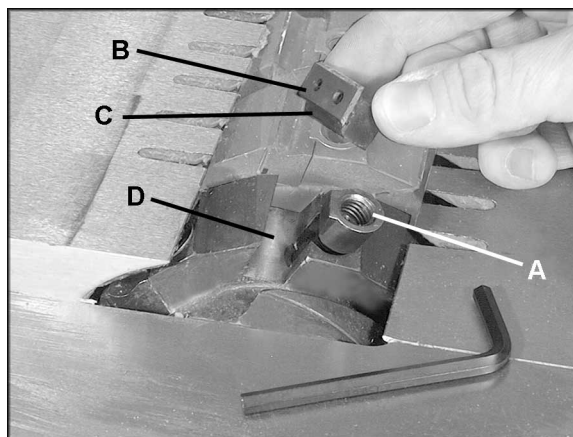

Figure 20
1. Loosen the gib screw (A, Figure 20).
2. Remove the knife insert (B, Figure 20) with the gib (C, Figure 20) from its slot.
3. Make sure the slot (D, Figure 20) is free of dust and debris that would prevent the gib and insert from seating properly. Wipe out the slot and clean with solvent if needed.
6. Firmly tighten the gib screw (A, Figure 20).